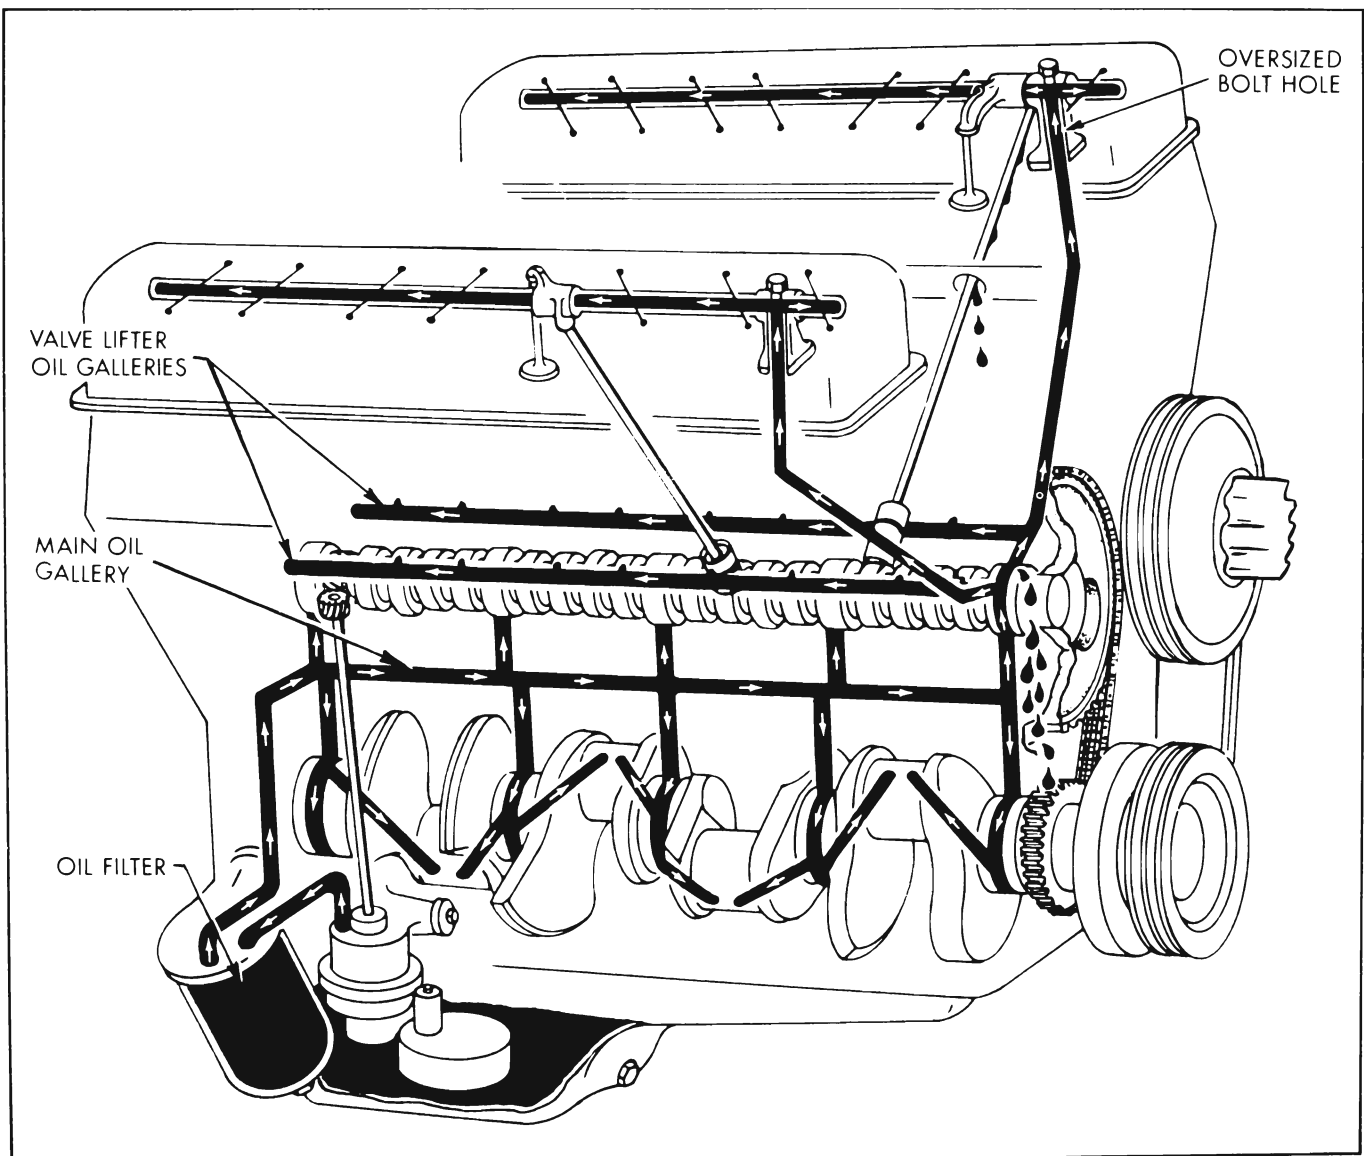

Figure 2-14—Schematic Diagram of Engine Oil Flow (401 & 425 Cu. In. Engines)
oil is supplied under full pressure to crankshaft, connecting rods, and camshaft bearings, and is supplied under controlled volume to the valve lifters, rocker arm bearings, and push rods. All other moving parts are lubricated by gravity flow or splash. See Figure 2-14.
**Main Oil Gallery.** The main oil gallery runs full length of the crankcase in the angle below the camshaft. Through connecting passages drilled in the crankcase it distributes oil at full pressure to all crankshaft and camshaft bearings, from which oil is then distributed to all other working parts of the engine. See Figure 2-14. See 2-15 for 300 cu. in. engine.
**Valve Lifters and Oil Galleries.** Oil holes in the crankcase and camshaft front bearing align with a groove in the camshaft front bearing journal which meters the flow of oil from the main oil gallery to the valve lifter oil gallery in each bank of cylinders. The drilled oil gallery, running full length of each cylinder bank, cuts into the lower sides of all valve lifter guide holes to supply an adequate volume of low pressure oil to each hydraulic valve lifter. Oil enters each lifter through grooves and holes in the lifter body and the plunger. See Figure 2-14.
**Rocker Arms, Valves, and Push Rods.** The rocker arms and valves on each cylinder head are supplied with low pressure oil from the valve lifter oil gallery through connecting passages drilled in the front end of cylinder block and head. See Figure 2-14.